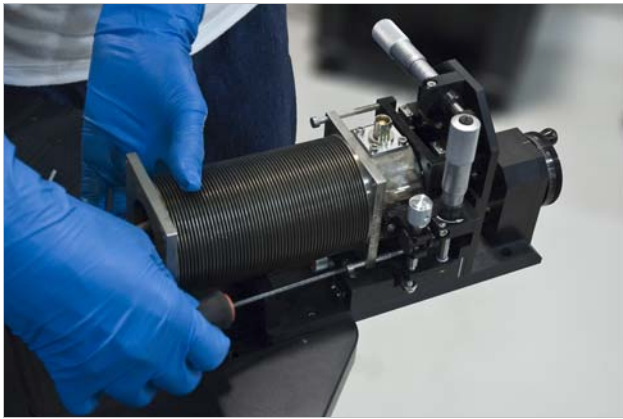

FIGURE 5-8 *Left: Remove the four horizontal screws that attach the bellows to the z-axis stage; Right: Compress the bellows to remove it from the probe arm*
1. Using the 3 mm hex driver, loosen and remove the four long M4 horizontal screws that attach the bellows to the z-axis stage (FIGURE 5-8).
3. Compress the bellows to make room to slide it carefully off the probe arm. When you reach the end of the probe arm, you will need to tilt it up to remove it from the probe arm (FIGURE 5-8). Place the bellows on a clean, lint-free cloth or wipe.